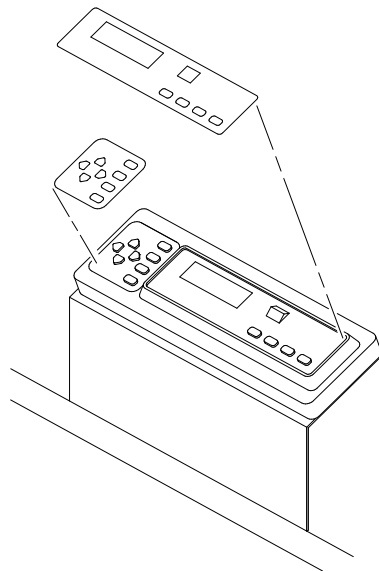

Figure 2–8. The Operator Panel Overlay Label
3. Thread the power cable connector up through the notch in the lower right back corner of the cabinet (see Figure 2–7). Plug the power cord into the printer's AC power connector, then into the AC power outlet.
4. Attach the overlay labels by adhering them to your operator panel. (See Figure 2–8.)